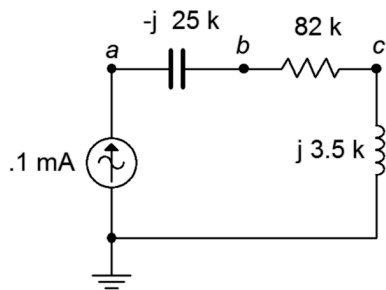

Figure 2.32
50. For the circuit of Figure 2.32, determine the voltages across each component. Further, draw a phasor diagram of the four component voltages.